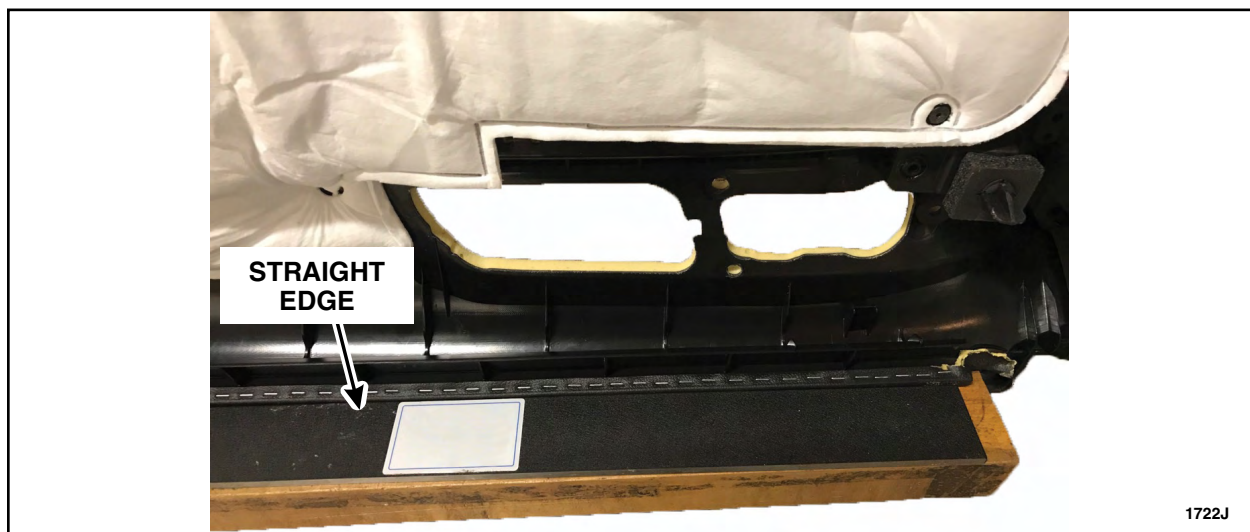

FIGURE 4
- c. Return to the center of the panel and work outward in the opposite direction so the entire panel is stapled across the top edge of the panel. See Figure 4.